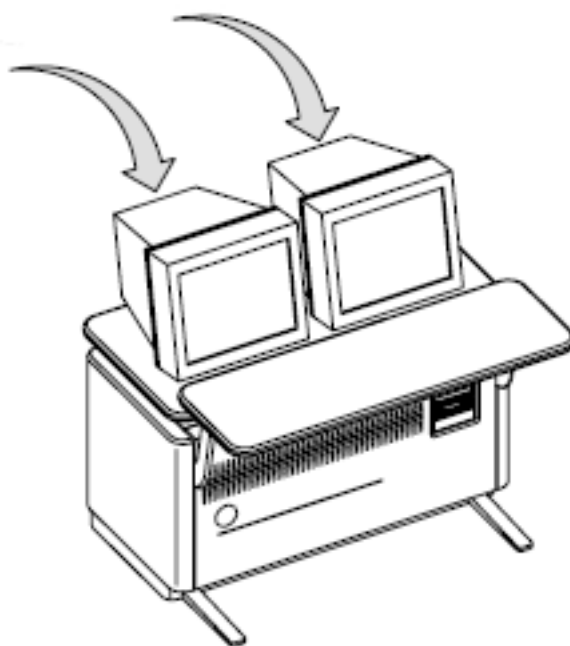

Figure 1-66 Console Monitor Locations
- 2.) Carefully place the monitors on the console desktop (see Figure 1-66).